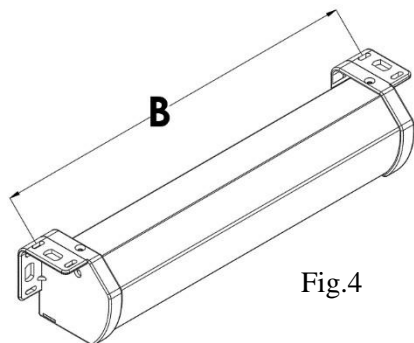

Fig.4
1. **Measure distance B** (shown in Fig. 4) between the **loop holes** on both end caps with a measuring tape.